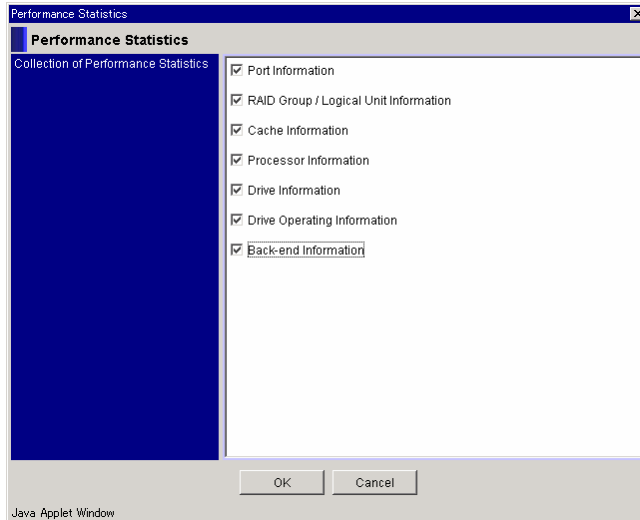

Figure 12.1 Performance Statistics Window
1. On the Tools menu, select **Performance** → **Settings**. See Figure 12.1.